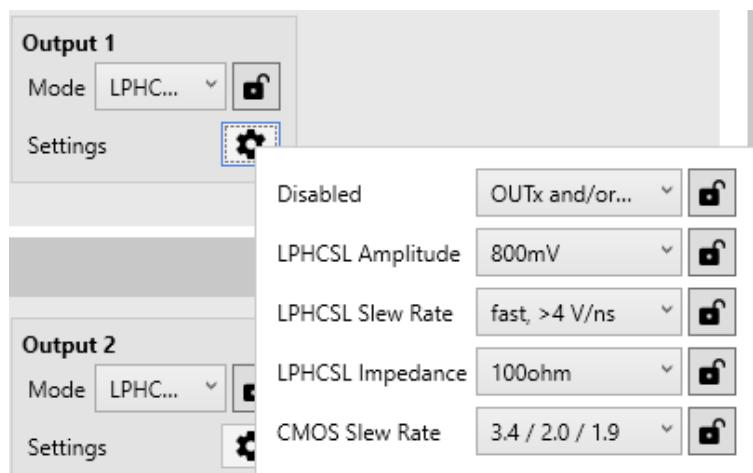

Figure 18. Advanced Output Settings
6. Configure the output bank settings which includes the divider source (LPFOD0/1, IOD0/1, or HPFOD0/1/2), output frequency and output mode (LPHCSL, LVDS, and LVCMS). If a bank is to be unused, use the “Power Down” check box to turn off the bank. Click on the settings icon to adjust amplitude, impedance, and slew rate for each output (see Figure 18).